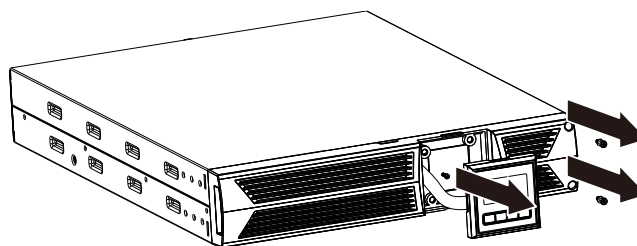

Figure 1.1
STEP 1: Take off the LCD box , remove the three screws.(Figure 1.1)